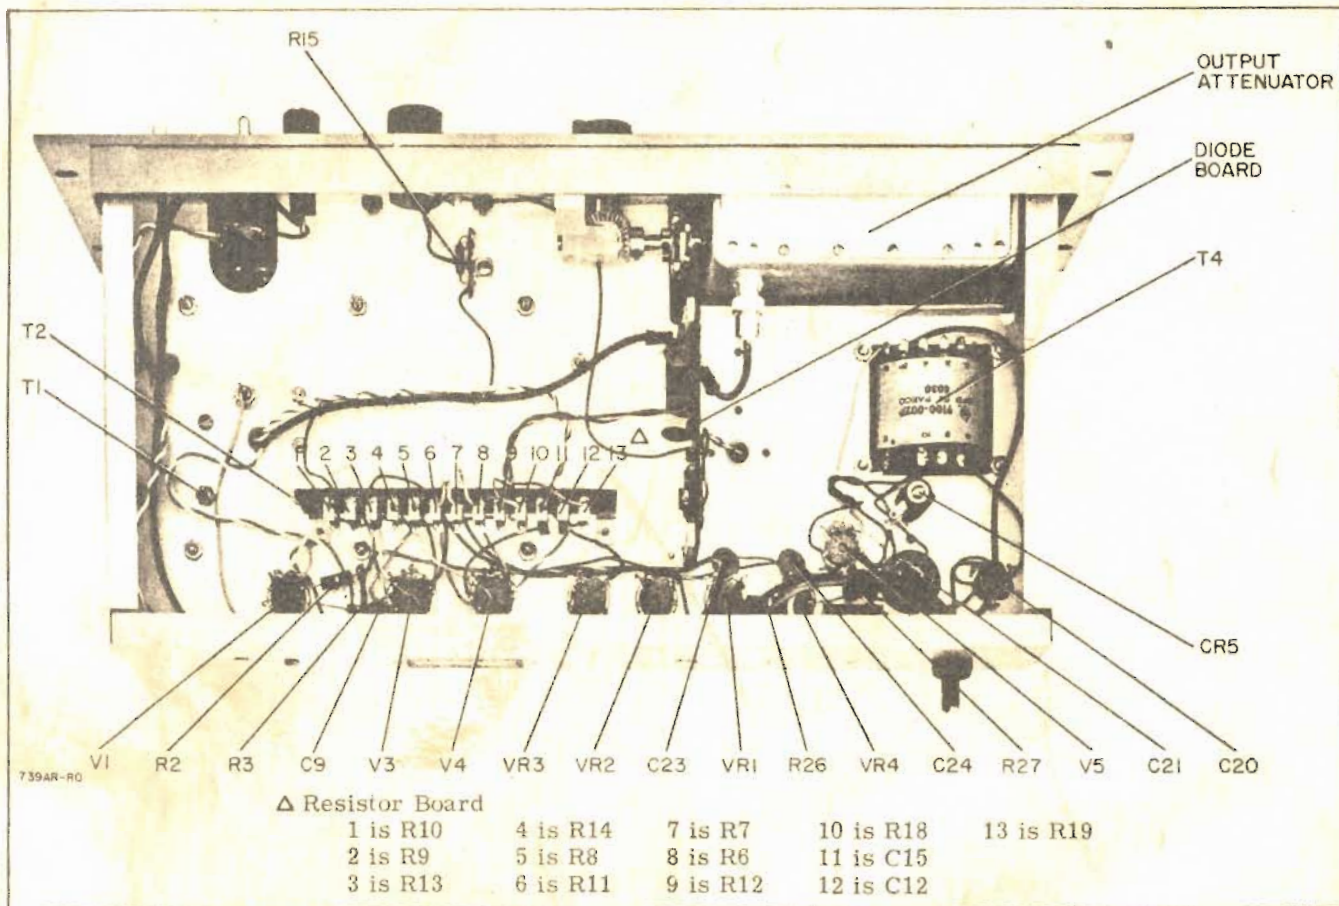

Figure 5-3. Bottom View
- c. Adjust slug in T₂ for 1 Mc output as read on the 524D Electronic Counter. (See Figure 5-3 for location.)